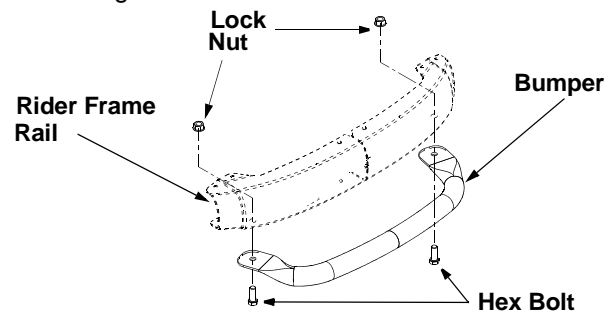

Figure 6
- Loosen and remove the two hex bolts and lock nuts from the front rail on the rider mower. See Figure 6.
- Align the two holes on the bumper tube with the corresponding holes on the rider frame (from where you removed the hardware). See Figure 6.
- Re-insert the two hex bolts through the bumper and the rider frame and secure with the two lock nuts. See Figure 6.